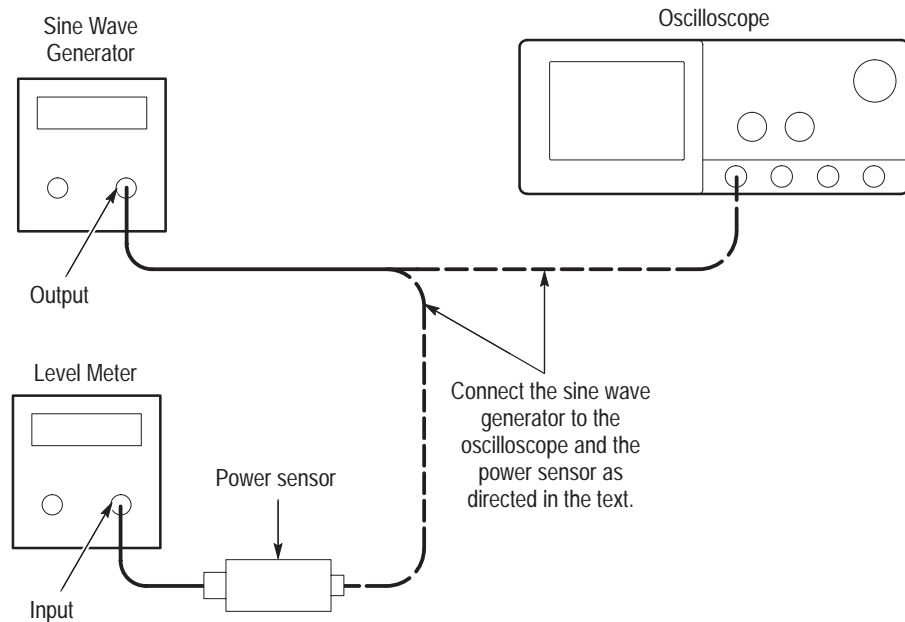

Figure 4-41: Equipment setup for maximum amplitude
1. *Install the test hookup:* Connect the equipment as shown in Figure 4-41 (start with the sine wave generator connected to the oscilloscope).